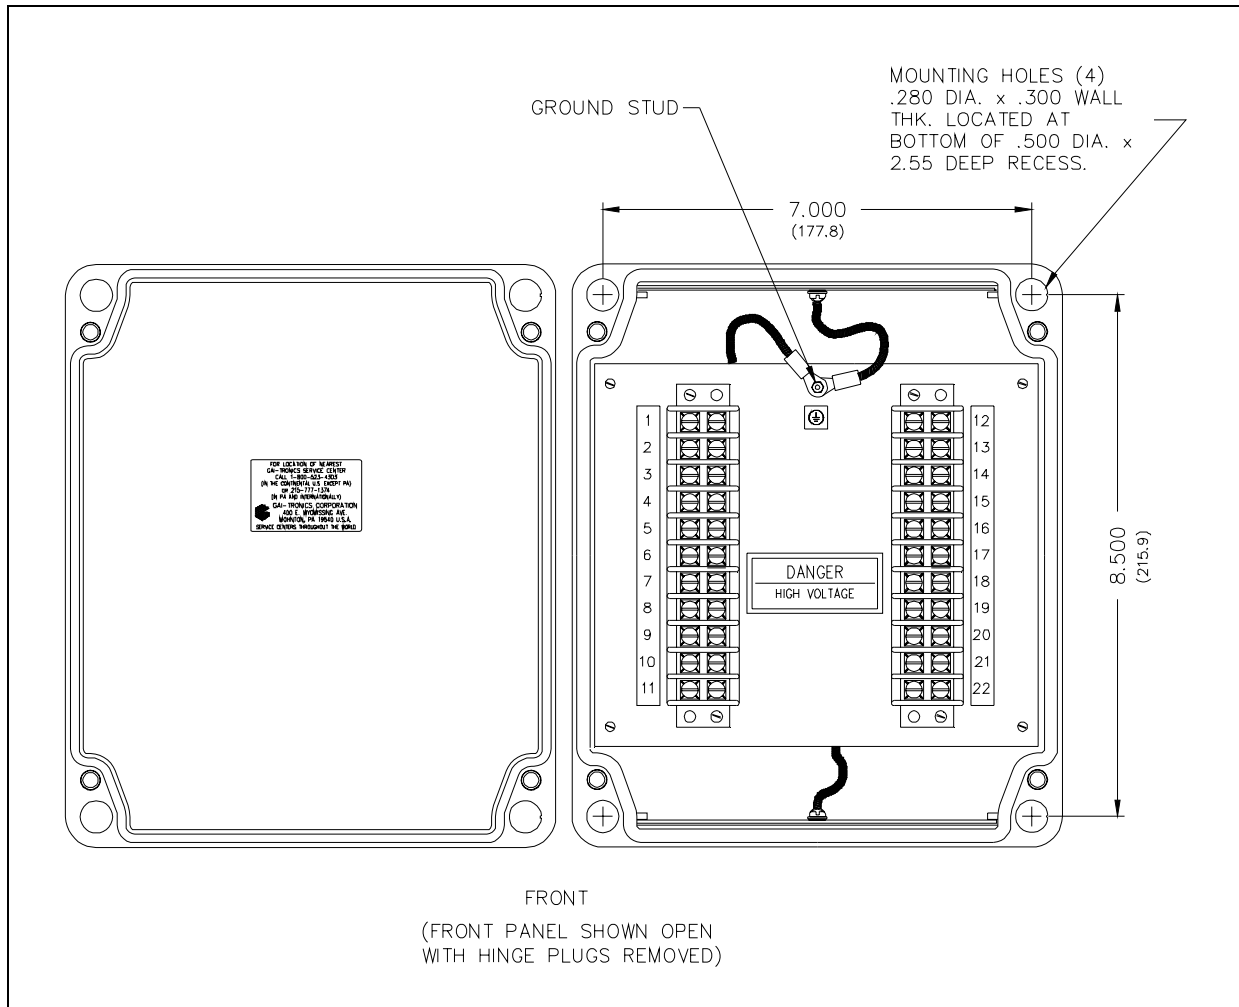

Figure 1. Mounting
3. One 0.280-inch diameter hole is located in each corner of the rear enclosure. See Figure 1. Install the rear enclosure to a wall or an appropriate surface through the supplied mounting holes.